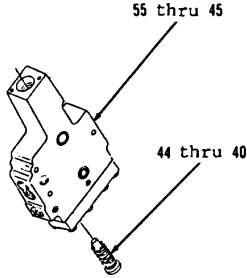

Figure 10-89.
- 9. Install items 44 thru 40 as an assembly (Figure 10-89) and tighten to 35 ft-lb torque. Figure 10-89